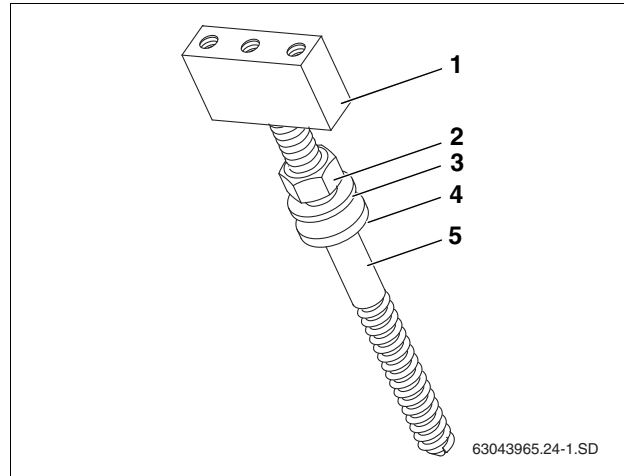

Fig. 20 Installing the hanger bolt – sequence
- ▶ When installing the hanger bolt, note the sequence of the individual parts (Fig. 20).
- ▶ Install the stud (Fig. 20, [5]) as far as it will go into the attachment block (Fig. 20, [1]).